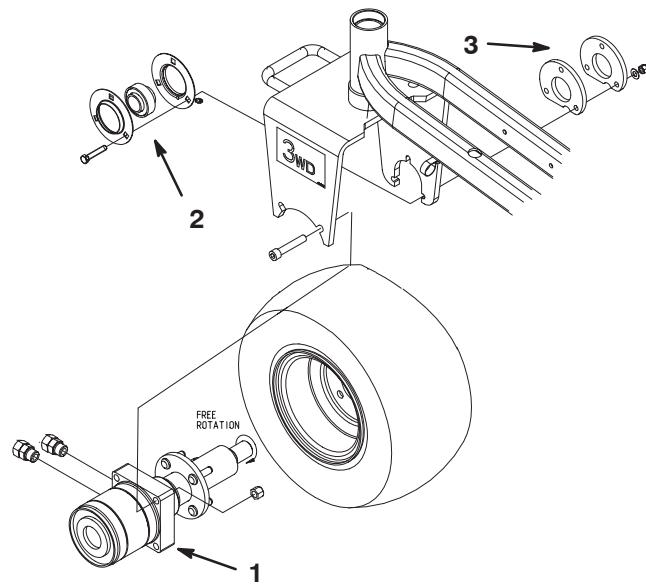

Figure 4
- Insert flangettes and bearing onto end of motor shaft as shown in Figure 4.
- Mount the (2) straight fittings to the side of the motor assembly (Fig. 4).
- Position the motor hub, flangettes with bearing and tire assembly into castor fork. Ensure that ports on motor face rearward (Fig. 4).
- Loosely secure motor to the inside of castor fork with (2) socket-head screws and (2) nuts (Fig. 4).
- Loosely assemble flangettes with bearing to inside of castor fork with (3) new 3/8 x 2 in. screws, (2) spacer mounts, (3) 13/32 x 13/16 hardened washers and (3) 3/8 in. locknuts.
Note: The grease fitting must be in the downward position on the flangette (Fig. 4)